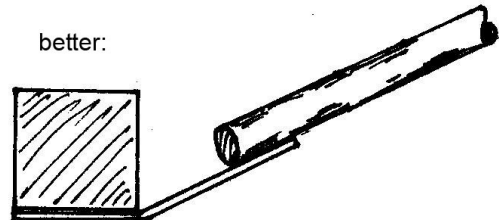

Fig. 53: Alining CBs
**Step 3** Put a support beneath the Centrebar so that the upper edge of the Centrebar at the CB4 crossing is 137mm above the distance piece (same height as underneath the frame). See Fig.53.